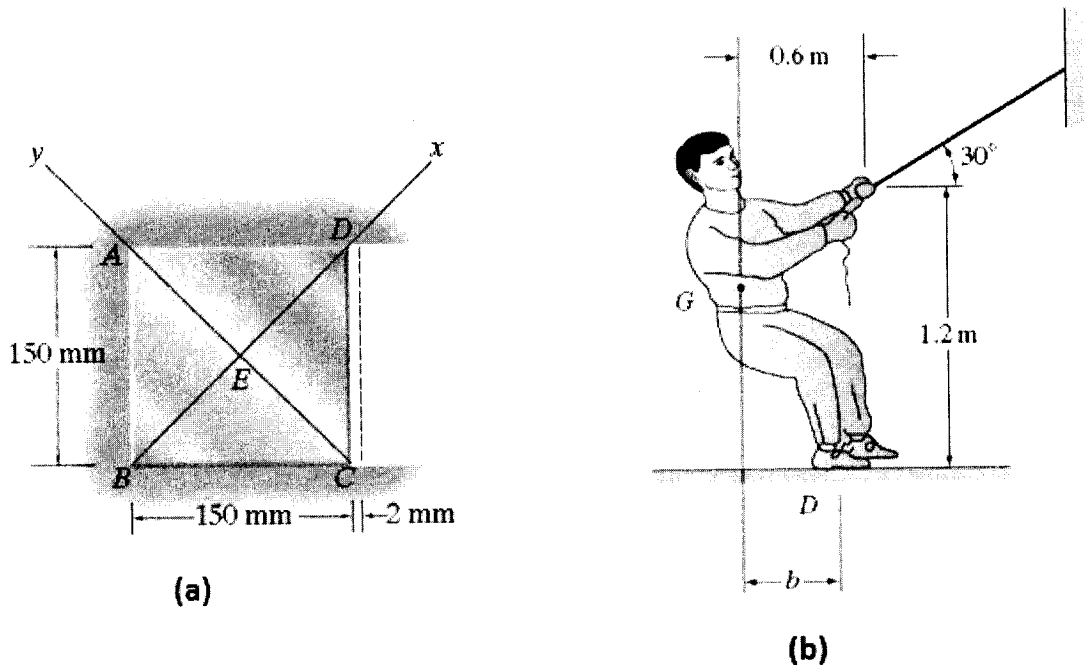

Figure 2:Q2
- a) The plate shown in Figure 2:Q2(a) is fixed connected along AB and held in the horizontal guides at its top and bottom, AD and BC . If its right side CD is given a uniform horizontal displacement of 2 mm, determine the shear strain at E relative to the x, y axes.
- b) The center of gravity of the 850-N man is at G (Figure 2:Q2(b)). If the man pulls on the rope with a 388-N force, determine the horizontal distance b between the man's feet and G .